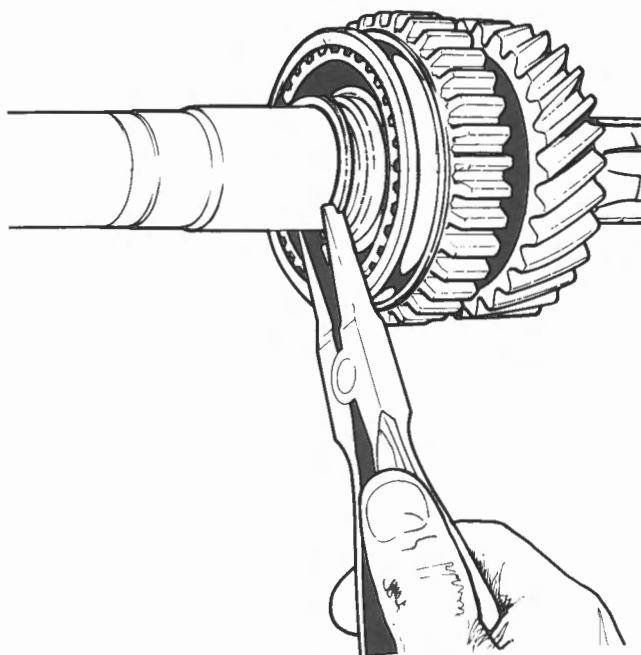

Fig. L-29
- 29 Remove the first and second synchroniser hub snap ring from the mainshaft. Fig. L-29.